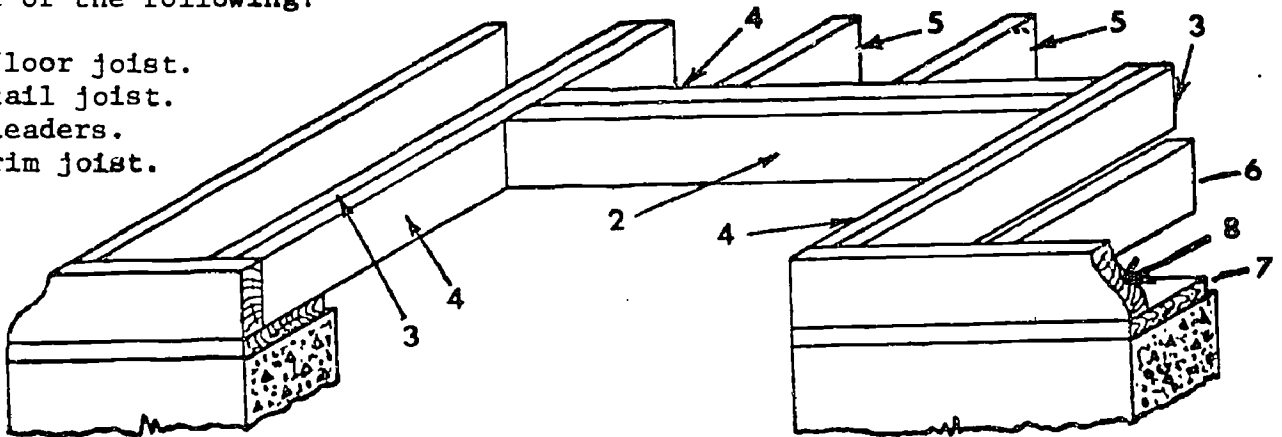

Fig. 23
3. In the illustration figure 23, the member(s) labeled number 2 is (are) called which of the following?
4. In the illustration figure 23, the member(s) labeled number 8 is (are) called which of the following?